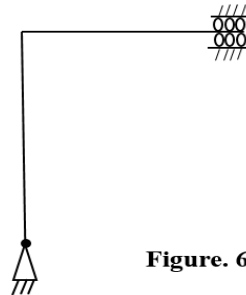

Figure. 6
- 3 a) Find the Kinematic indeterminacy and Static indeterminacy of the continuous beam ( Figure.4) , pin jointed frame (Figure.5) and rigid frame (Figure.6)